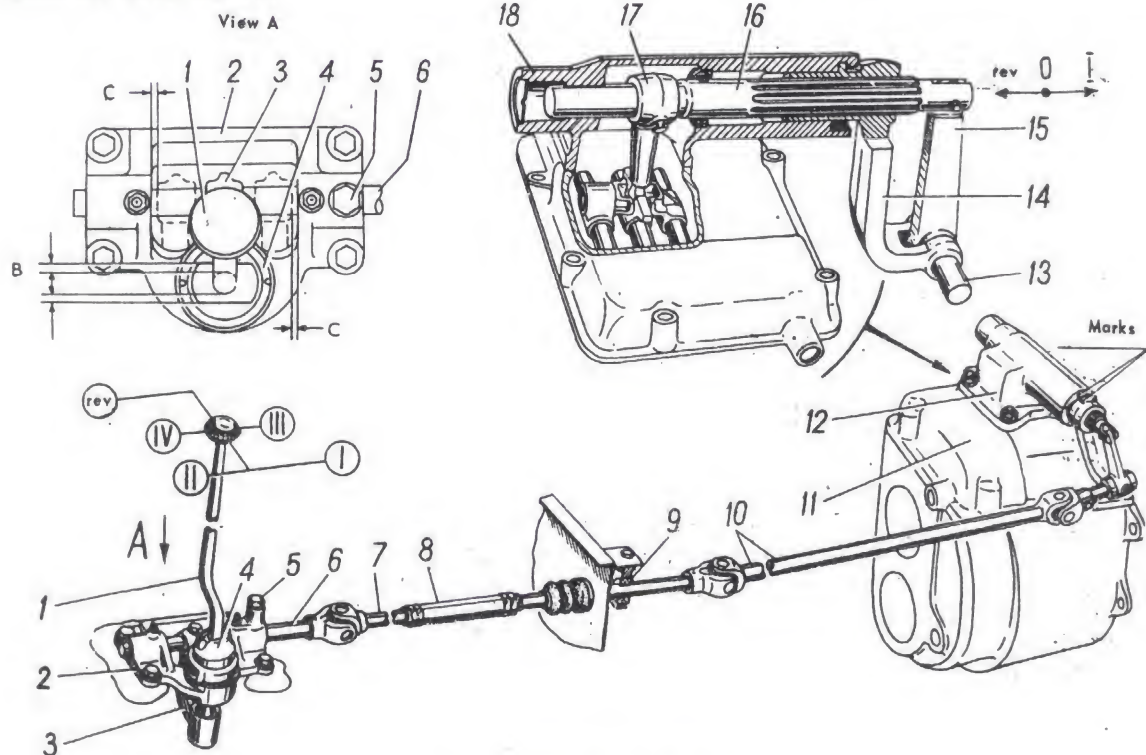
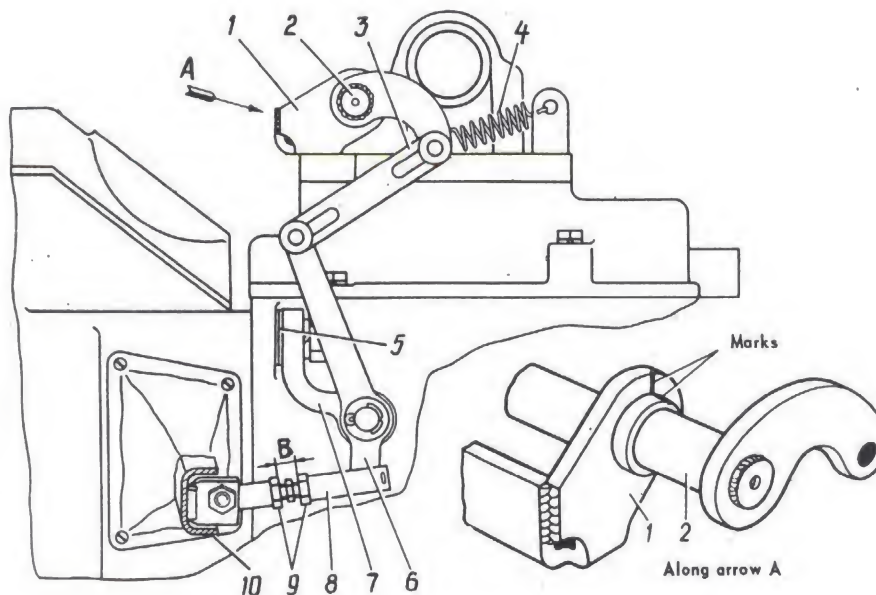

FIG. 27. GEAR-SHIFT CONTROL
FIG. 29. GEARBOX INTERLOCKING MECHANISM
Gear-shift lever 1 (Fig. 27) is located at the driver's right hand in a spherical seat made in support 2 and secured by cap 4 from above.
Adjustment of the gear-shift control involves adjustment of the length of control front rod 7 by screwing turnbuckle barrel 8 in or off (see Fig. 27) and adjustment of the interlocking mechanism linkage by varying the length of adjustable main rod 8 (Fig. 29).
1. Set lever 1 (see Fig. 27) in the fixed neutral position.
In case the interlocking shaft interferes with shifting of gears, bring the lever of shaft 2 (Fig. 29) into the lowermost position by hand and adjust the interlocking mechanism (see below).
The interlocking pins are pressed to the locking balls by the springs. The lever of interlocking shaft 2 (see Fig. 29) is connected with clutch release fork 10 by rods 3 and 8 and double-arm lever 6.
3. Depress fully the clutch pedal and engage the first speed gear to the amount of travel of gear-shift lever 1 (see Fig. 27) up to its retaining in support 2. The clearance should be between support 2 and shifter arm 3 as indicated above.